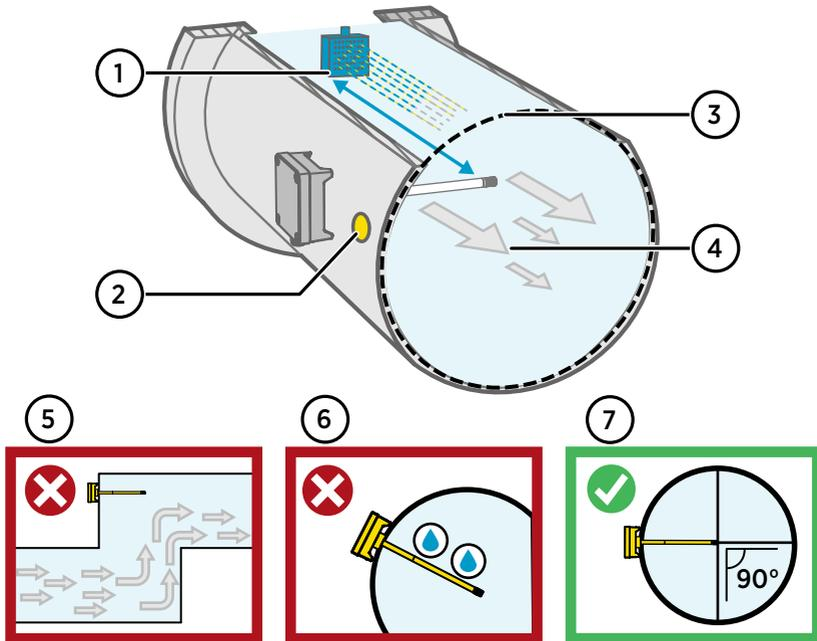

Figure 9 Duct Installation Overview
4. Optional: Drill a second hole for reference measurements approximately 30 cm (12 in) from the transmitter installation hole. See Figure 9 \(page 17\).